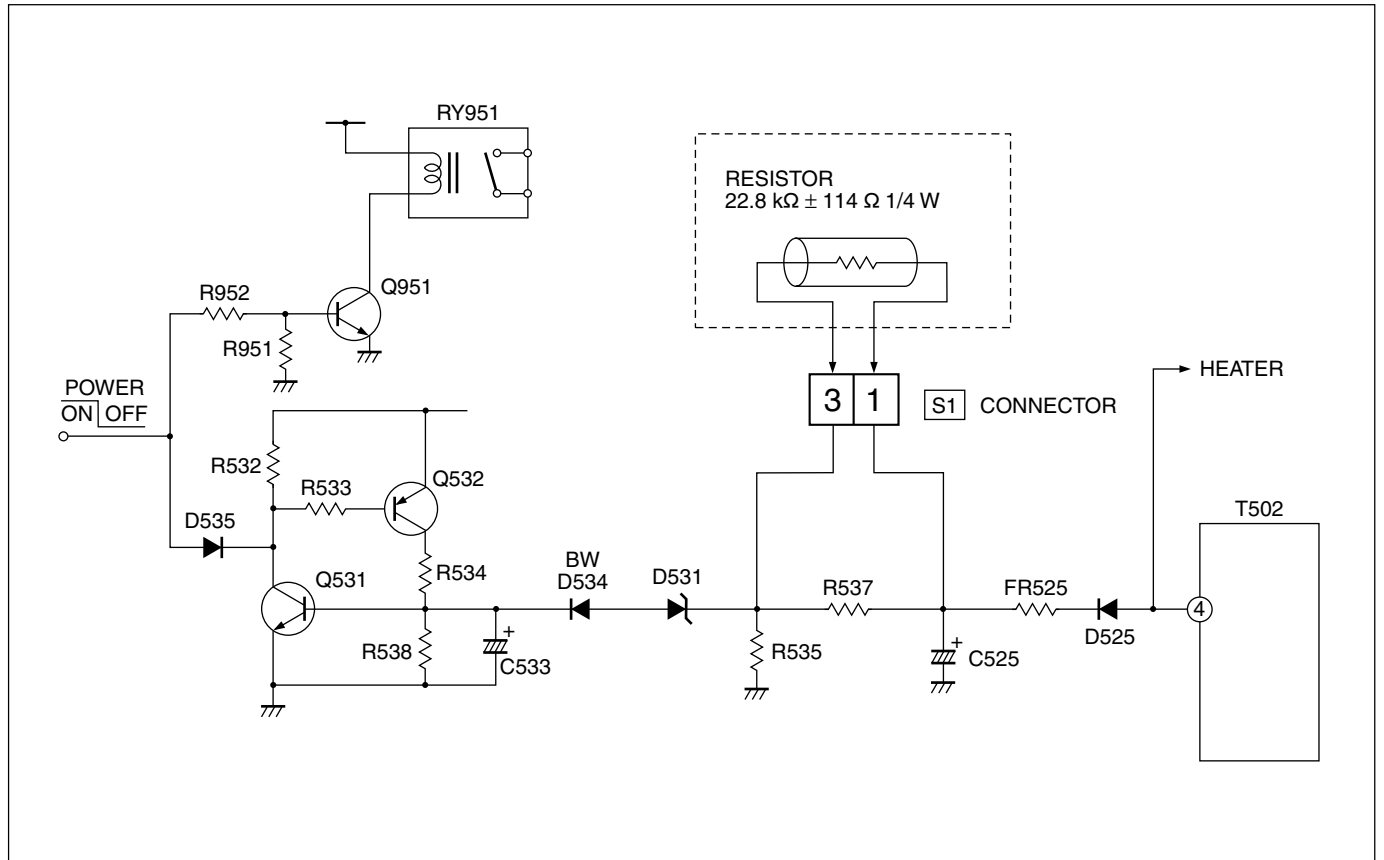

Fig. 1
- (1) Turn the POWER SW ON.
- (2) As shown in Fig. 1, set the resistor (between S1 connector 1 & 3).
- (3) Make sure that the screen picture disappears.
- (4) Temporarily unplug the power cord.
- (5) Remove the resistor (between S1 connector 1 & 3).
- (6) Again plug the power cord, make sure that the normal picture is displayed on the screen.